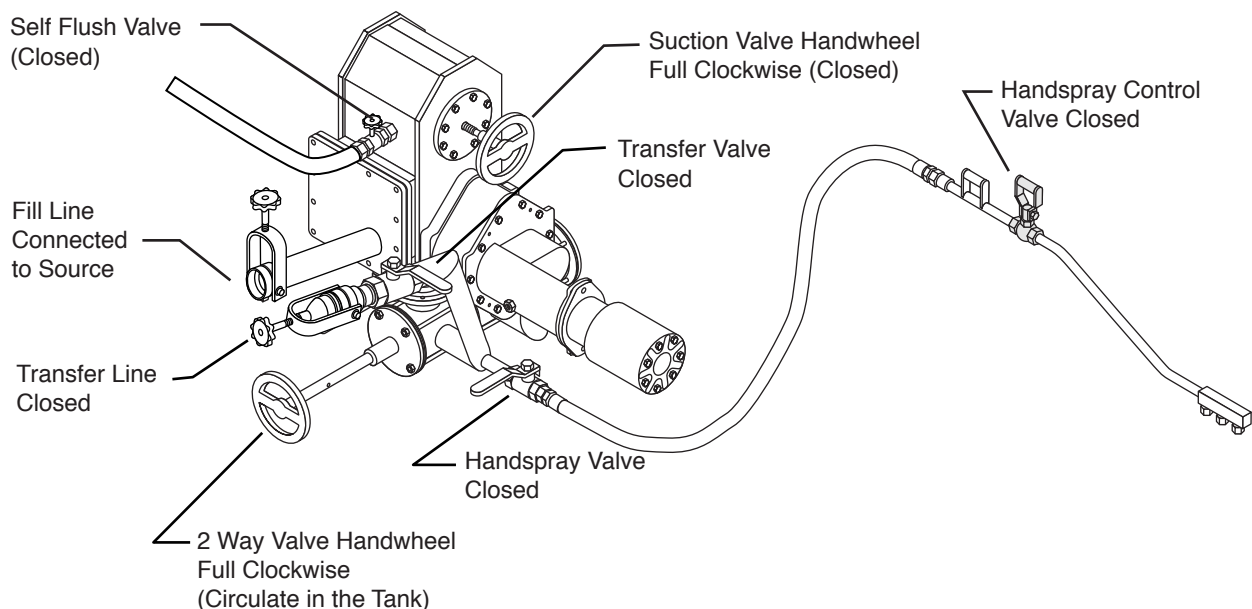

Figure 1. Valve Positions for Filling
9. Set all of the valve positions (see Figure 1).